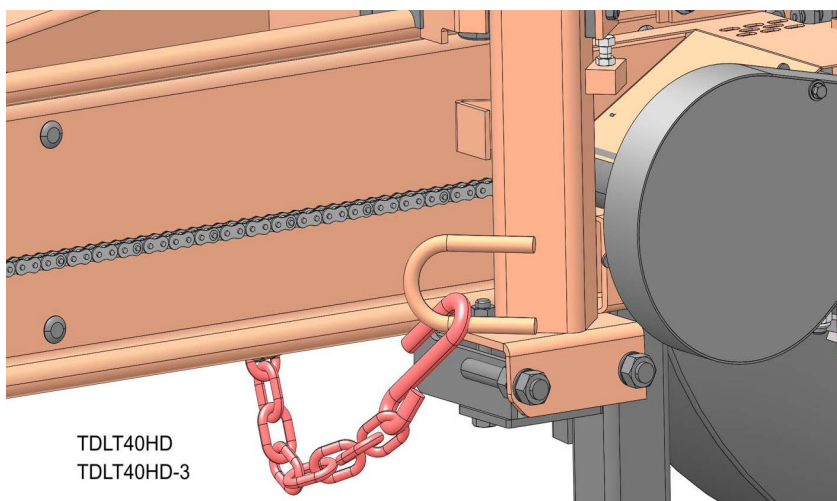

FIG. 4-13
15. Hook the carriage safety chain (shown in red) located at the bottom of the carriage to the bracket at the bottom of the mast. See FIG. 4-13.